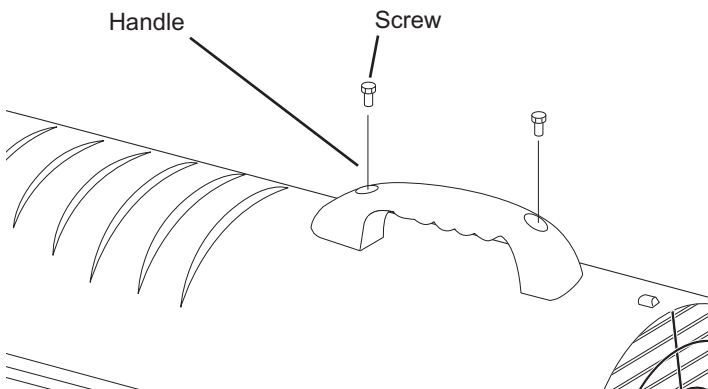

Figure 6. Handle Mounting, Models HS-45/70T-KFA
1. Align the holes in the upper housing with the 2 holes in the handle as shown in **Figure 6**.